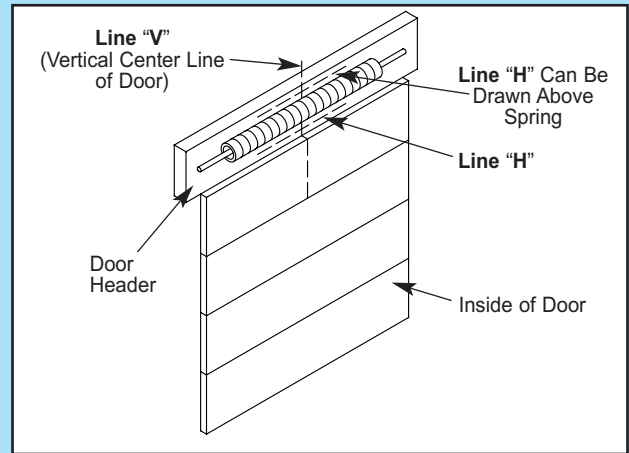

Fig. 2-1
#### 1. Establish center line of door and header (Fig. 2-1).
- Draw horizontal line "H" across line "V" at this point (Fig 2-1).